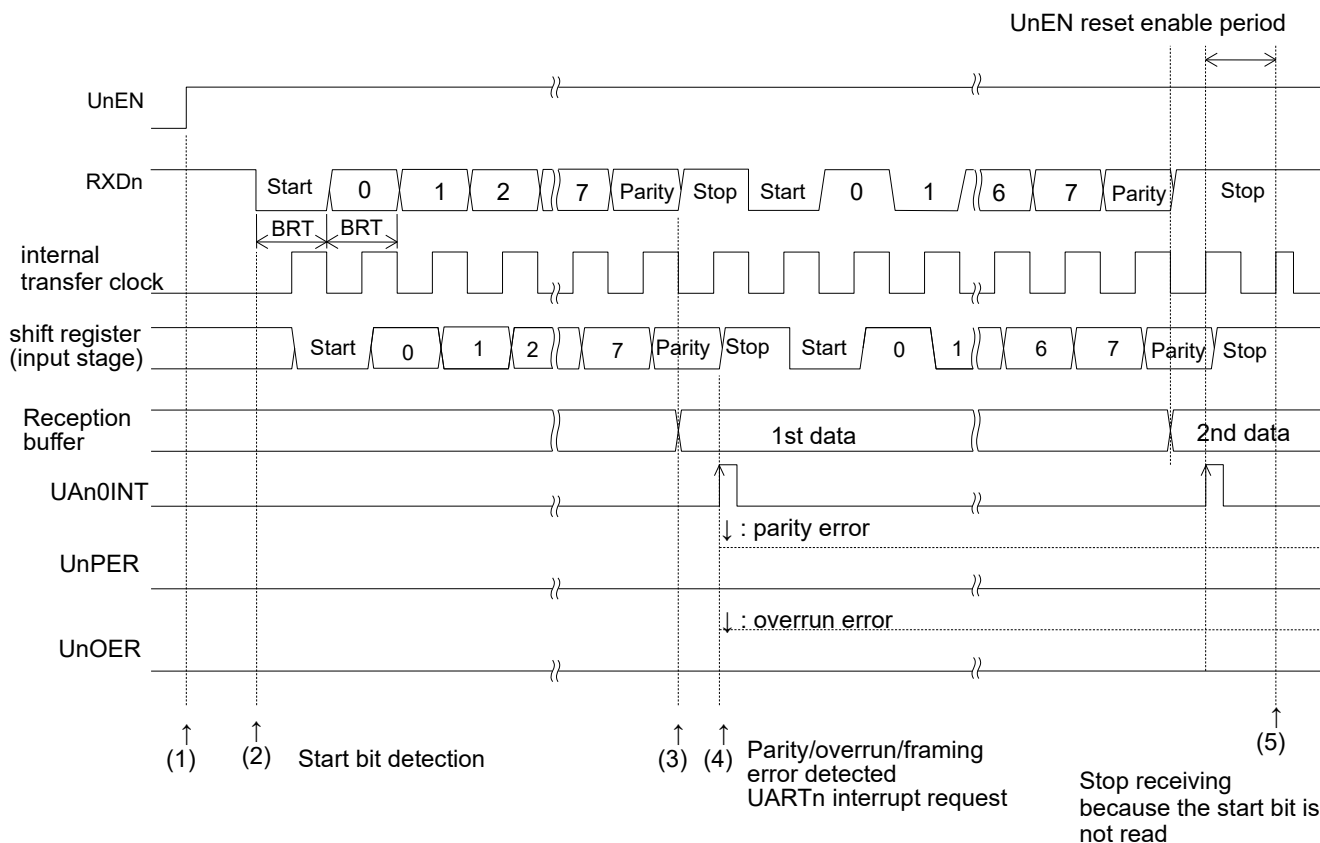

Figure 14-5 Reception Timing
Figure 14-5 shows the operation timing for reception.
When a reception starts, this module checks the data sent to the input pin RXD and waits for the arrival of a start bit. When detecting a start bit ((2) in Figure 14-5), It generates the internal transfer clock of the baud rate set with the start bit detect point as a reference and performs reception operation.
The shift register shifts in the data input to RXD on the rising edge of the internal transfer clock. The data and parity bit are shifted into the shift register and 5- to 8- bit received data is transferred to the reception buffer (UAnBUF0) concurrently with the falling edge of the internal transfer clock of (3) in Figure 14-5.
This module requests a UART reception interrupt on the rising edge of the internal transfer clock subsequent to the internal transfer clock by which the received data was fetched ((4) in Figure 14-5) and checks for a stop bit error and a parity bit error. When an error is detected, this module sets the corresponding bit of the UART n status register (UAnSTAT) to "1".
As shown in Figure 14-5, the rise of the internal transfer clock is set so that it may fall into the middle of the bit interval of the received data.
A reception continues until the UnEN bit is reset to "0" by the program. When the UnEN bit is reset to "0" during reception, the received data may be destroyed. When the UnEN bit is reset to "0" during the "UnEN reset enable period" in Figure 14-5, the received data is protected.